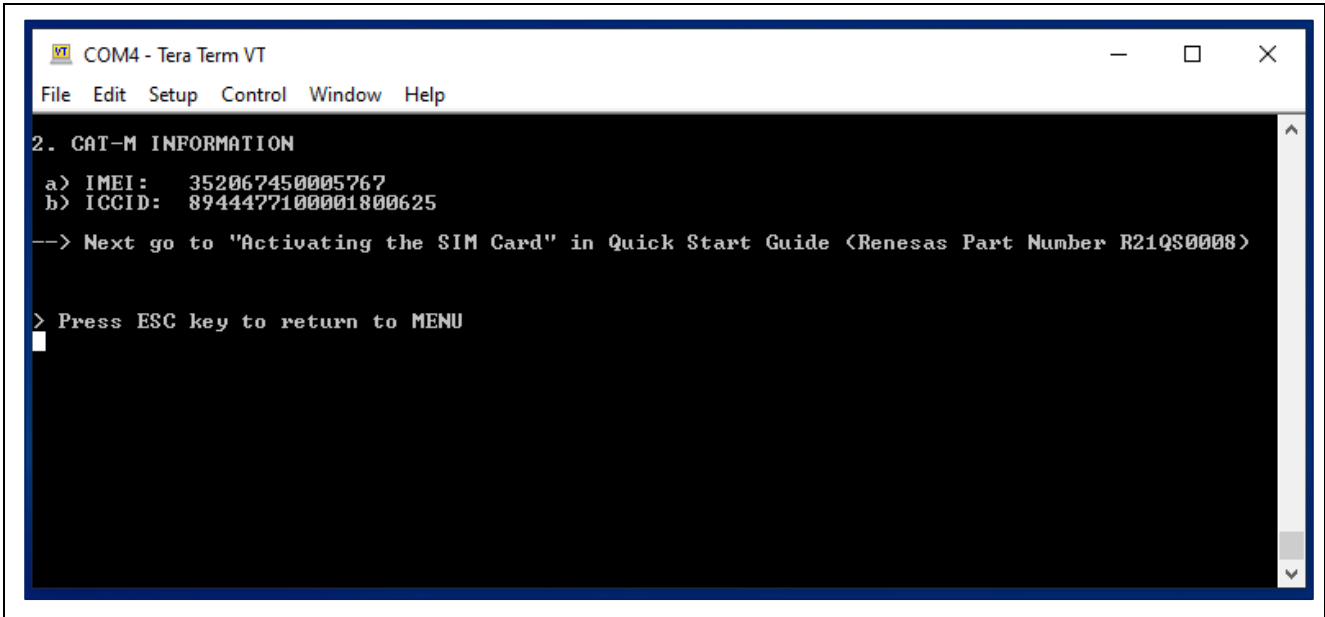

Figure 10. RYZ024A PMOD Information
8. Enter the **ICCID** value obtained from the **Running the RYZ024A PMOD example project** section. See the **ICCID** value in Figure 10, RYZ024A PMOD Information. Fill other fields as needed.